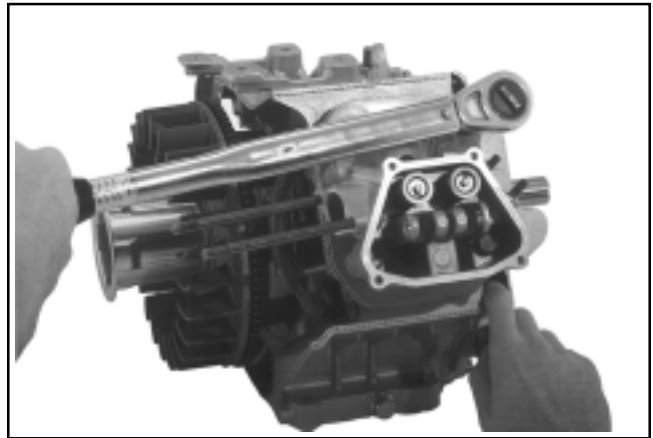

Figure 11-66. Tightening Cylinder Head Screws.
5. Install the cylinder head and start the four hex. flange screws. Torque the screws in several increments, using the sequence shown (See Figures 11-66 and 11-67) to: